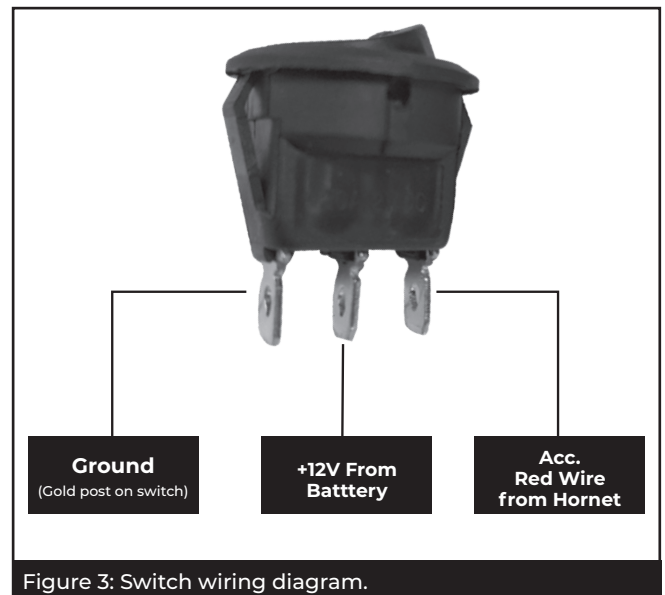

Figure 3: Switch wiring diagram.
- 5** To wire the switches properly, refer to the wiring diagram in **Figure 3**.